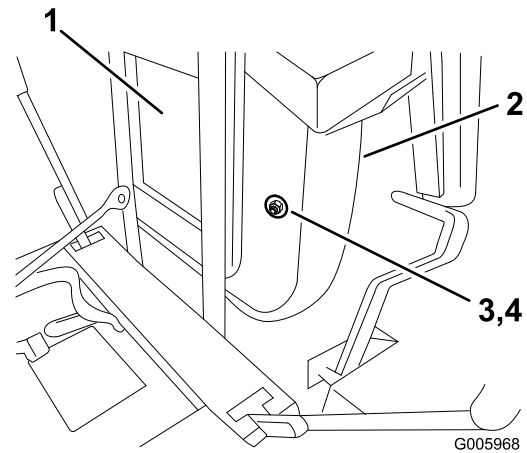

Figure 5
- Tip the seat forward and remove the two bolts and washers holding the seat cushion to the seat pan (Figure 5). Retain the seat cushion fasteners for later use.